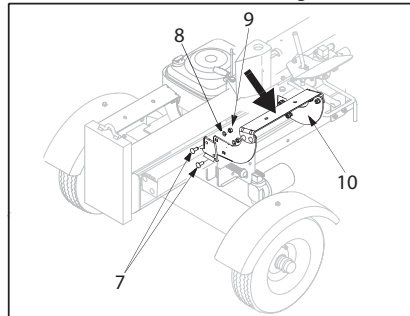

Fig.8
- Unscrew the support (10) from the splitting column, on the side of the control valve. Fig. 8